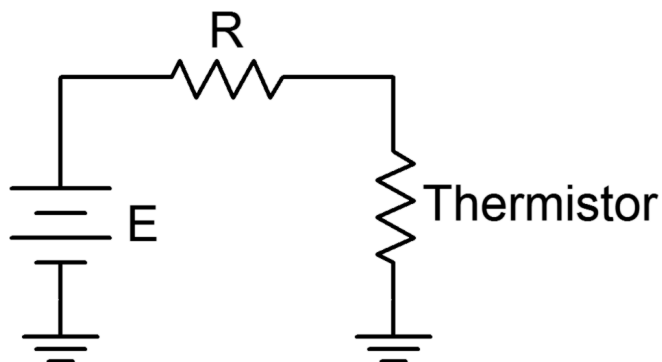

Figure 2
- Build the circuit of Figure 2 using  $E=10$  volts and  $R=10\text{ k}\Omega$ . Measure the voltage across the thermistor and record it in Table 5 under “Room Temp”.